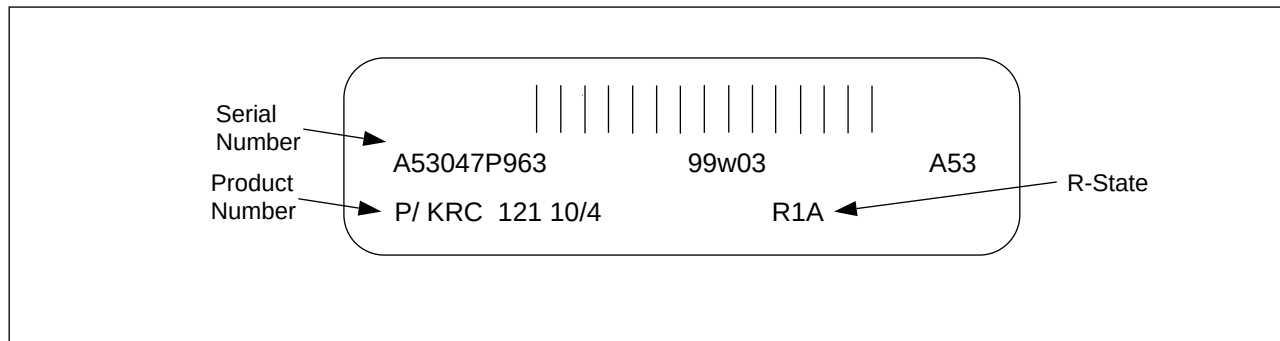

Figure 4-35. Unit Product Label
2. Locate the product labels on all of the units in the cabinets. Each unit has a product label located on its front panel, as shown in Figure 4-35 on page 4-52, indicating its product number and revision state.